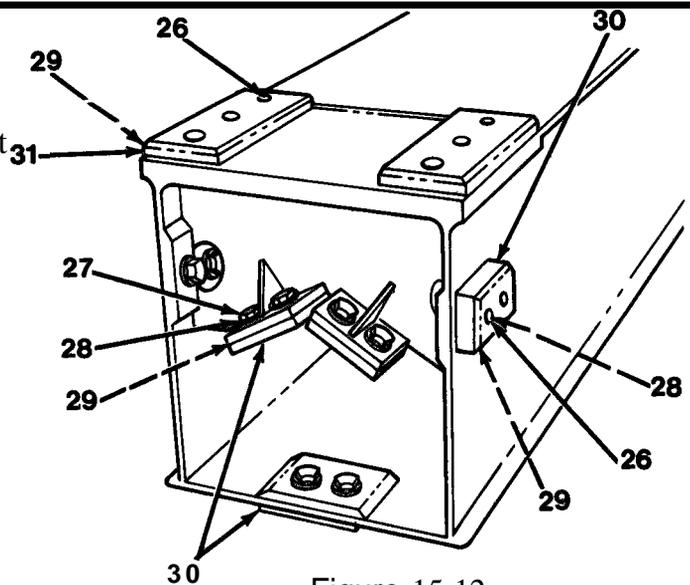

Figure 15-12
6. Install 2 large wear pads (31), 5 small pads (30), shims (29), 16 washers (28), 6 capscrews (27) and 10 capscrews (26, Figure 15-12).